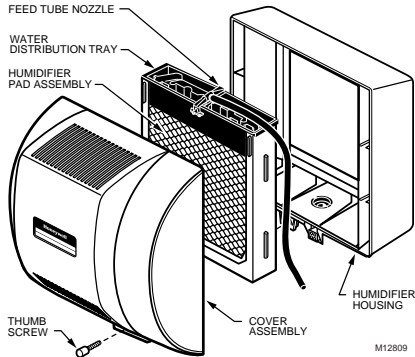

Fig. 13. Cleaning your humidifier.
2. Remove the humidifier cover by unplugging the connector and loosening the thumb screw. Grasp the cover near the bottom and pull toward you. See Fig. 13.